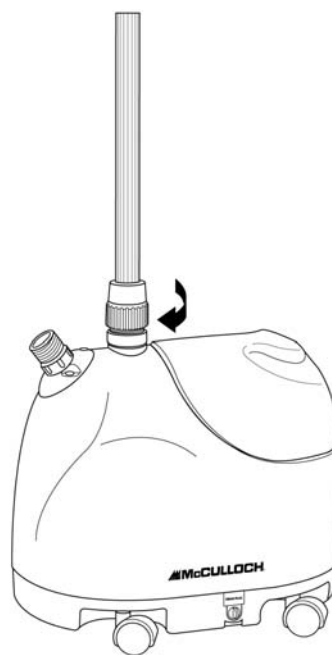

FIGURE 5
3. Tighten Pole Base by turning it in a clockwise direction until it is tight, and Telescopic Pole sits firmly in place (FIGURE 5).